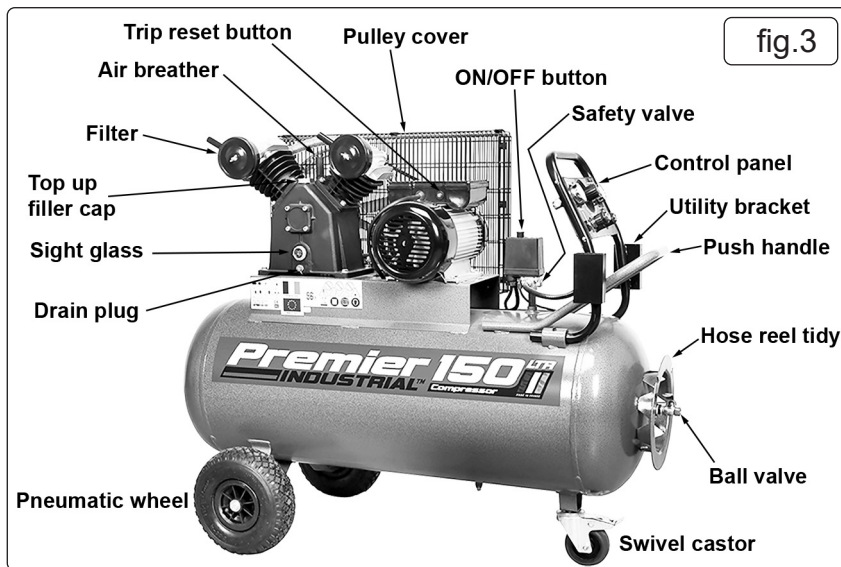

fig.3
- 4.2.1. Screw the filter unit into the port openings in each head as shown in (fig 3).
- 5.4. Before using the compressor check the oil level by referring to the oil sight glass (fig 3). On a horizontal surface, if the oil level is not up to the red centre mark it should be further topped up with recommended oil, see section 6.7.
- 5.5. To top up undo filler cap (fig 3), top up oil level to required level, then replace filler cap.
- 5.7.1. Your compressor is fitted with a push/pull type ON/OFF button to turn the compressor "ON" pull the ON/OFF button upwards. To turn the compressor "OFF" push the ON/OFF button downwards (fig 3).
- 5.7.3. Plug mains lead into mains supply and start the compressor pulling the ON/OFF button (fig 3) upwards.
- 5.7.5. Stop the compressor by pushing the ON/OFF button (fig 3) downwards. The compressed air inside the compressor head will flow out via the air line tube situated beneath the switch housing. Restart is made easier and prevents the motor from being damaged.
Should the pressure in the main tank exceed the pre-set maximum, the safety valve (fig 3) will activate.
- **WARNING!** For this reason **DO NOT** tamper with, or adjust, the pressure switch (fig 6) or safety valve (fig 3).
- 5.7.7. The compressor is fitted with a trip reset button, located on the side of the connection box on top of the motor (fig 3). Should the trip reset button activate, leave for 1 minute before pressing the button to reset.
Remove the filler cap (fig 3) then unscrew the drain plug (fig 3) and drain the oil into a suitable waste oil container. Drain when the compressor is hot so that oil drains rapidly and completely. Incline compressor to ensure complete drainage. Replace drain plug and refill through the oil filler aperture. **DO NOT** overfill. Replace filler cap.